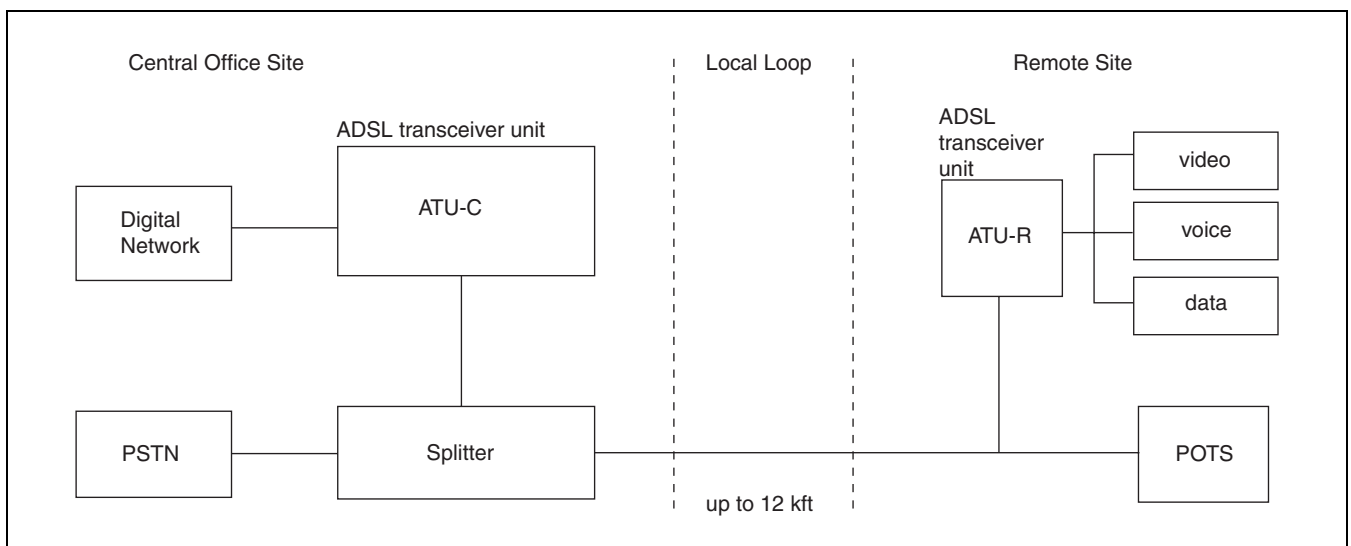
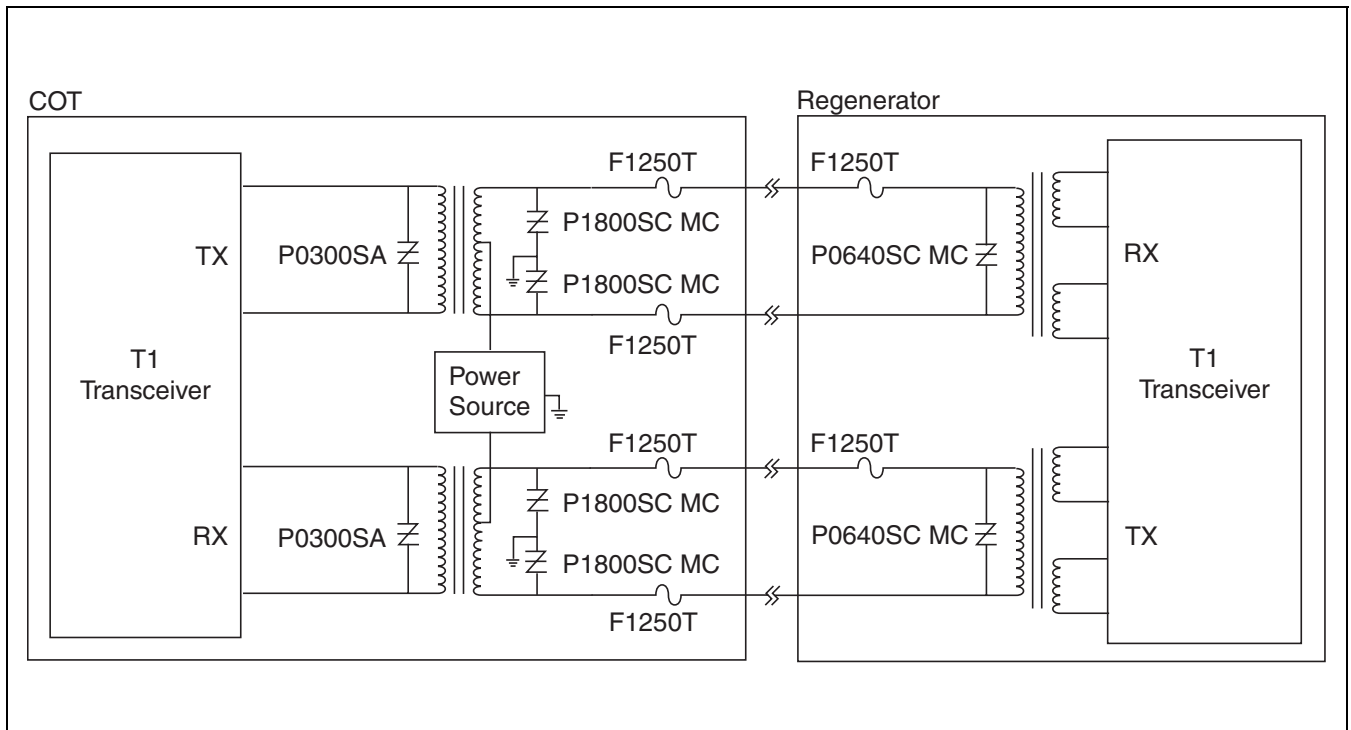

Figure 3.7 ADSL Overview
Figure 3.17 T1/E1 Protection
Transmission equipment should be protected against overvoltages that can exceed 2500 V and surge currents up to 500 A. In Figure 3.7 through Figure 3.17, *SIDACtor* devices were chosen because their associated peak pulse current (I_{PP}) rating is sufficient to withstand the lightning immunity tests of GR 1089 without the additional use of series line impedance. Likewise, the fuse shown in Figure 3.7 through Figure 3.17 was chosen because the amps^2time (I^2t) rating is sufficient to withstand the lightning immunity tests of GR 1089, but low enough to pass GR 1089 current limiting protector test and power cross conditions (both first and second levels).
Asymmetric Digital Subscriber Lines (ADSLs) employ transmission rates up to 6.144 Mbps from the Central Office Terminal (COT) to the Remote Terminal (RT) and up to 640 kbps from the RT to the COT at distances up to 12,000 feet. (Figure 3.7)
Longitudinal protection is required at the Central Office Terminal (COT) interface because of the ground connection used with loop powering. (Figure 3.17) Two P1800SC MC *SIDACTor* devices provide overvoltage protection and two F1250T *TeleLink* fuses (one on Tip, one on Ring) provide overcurrent protection. The P1800SC MC device is chosen because its V_{DRM} is compliant with TIA-968 regulations, Section 4.4.5.2, "Connections with protection paths to ground." These regulations state:
For the transceiver side of the coupling transformer, additional overvoltage protection is shown in Figure 3.17 using the P0300SA *SIDACTor* device. When an earth ground connection is not used, only metallic protection is required. Metallic protection is satisfied using a single P0640SC MC *SIDACTor* device across Tip and Ring and a single F1250T *TeleLink* fuse on either Tip or Ring.